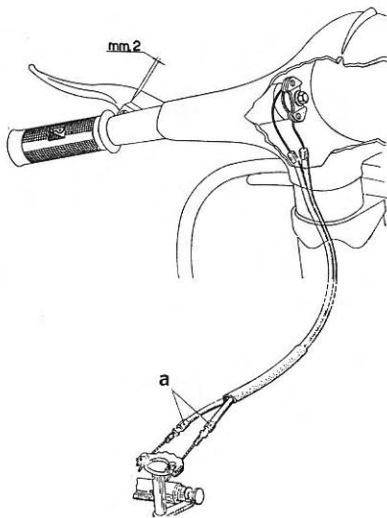

Fig. 33
- (1) If in the " O " position the lever has an excessive play, suitably adjust one of the two cables by rotation of the relative adjusting screw " a " (Fig. 33).
- (2) If the marking of the handlebars do not coincide with the appropriate index mark, tighten the appropriate adjusting screw and slacken the corresponding counterpart so as to maintain the existing cable tension.